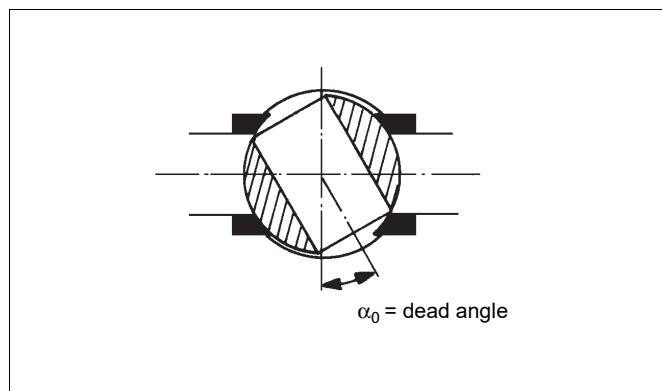

Fig. 13 Zero and range adjustments
4. Set the input signal at the closed limit of the valve so that it is 2 % i.e. 0.3 mA higher or lower than the limit value, (e.g. 4 + 0.3 = 4.3 mA or 20 - 0.3 = 19.7 mA). Turn the zero adjustment nut (61) with a screwdriver or fingers so that the actuator comes slowly to the closed limit. The valve should open slightly with a 4 % change in signal, that is 0.6 mA, (e.g. 4 + 0.6 = 4.6 mA or 20 - 0.6 = 19.4 mA). See Figure 13.
Check the condition of the O-rings (43 and 47) and of the gasket (45). The end of the leaf spring on the beam must be on top of the pilot valve spool (Figure 13). Make sure that the end of the beam (5) goes into the spool groove without sideways deflections. After tightening the nuts (49), check the beam once again by hand to see that the pilot valve moves readily.